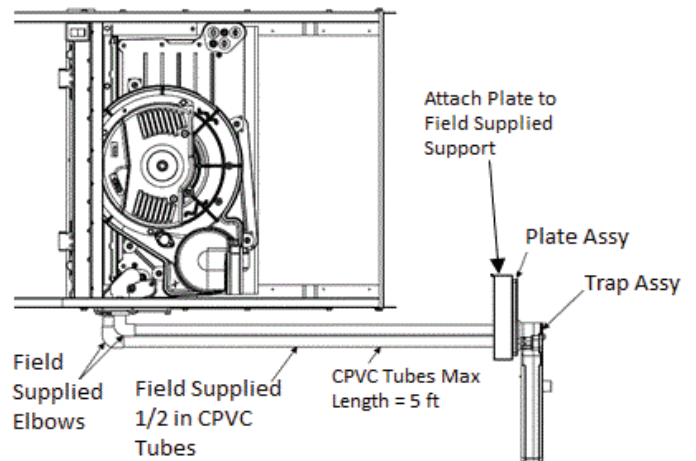

Fig. 23 – Alternate Horizontal Option - Remote Trap Condensate Drain Connection
3. Screw the adapter plate to the trap adapter using provided machine screw (see Fig. 23). Drilling pilot holes is recommended to better align the plate with the knockout opening.
4. Install the second trap plate at the remote location, 5 ft. or less away from the furnace (Fig. 23).
5. Using two field supplied 1/2-in. CPVC tubes of the desired length (5 ft. or less) and 2 field supplied CPVC elbows, run the drain from the adapter plate on the furnace to the remote adapter plate (Fig. 23).
6. Screw the trap to the adapter plate using provided machine screw (Fig. 23). Ensure trap is firmly secured and supported.